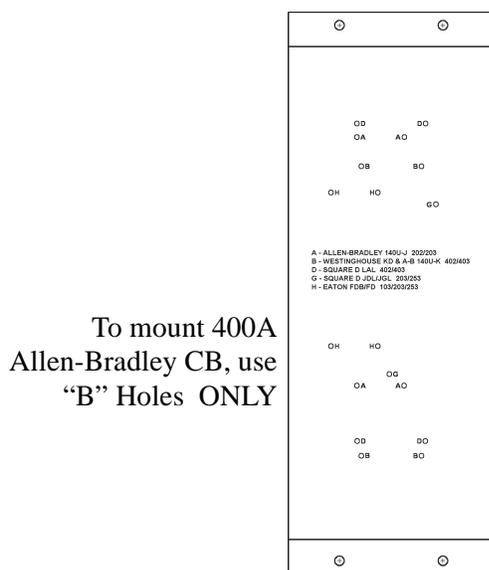

Figure 15
2. Place the Operator (A-B P/N 1494V-M60) on the Breaker Mounting Plate (ENTRON P/N 530026) aligning the mounting holes on the Operator with the “B” designated mounting holes on the Plate (note plate orientation in Figure 15).